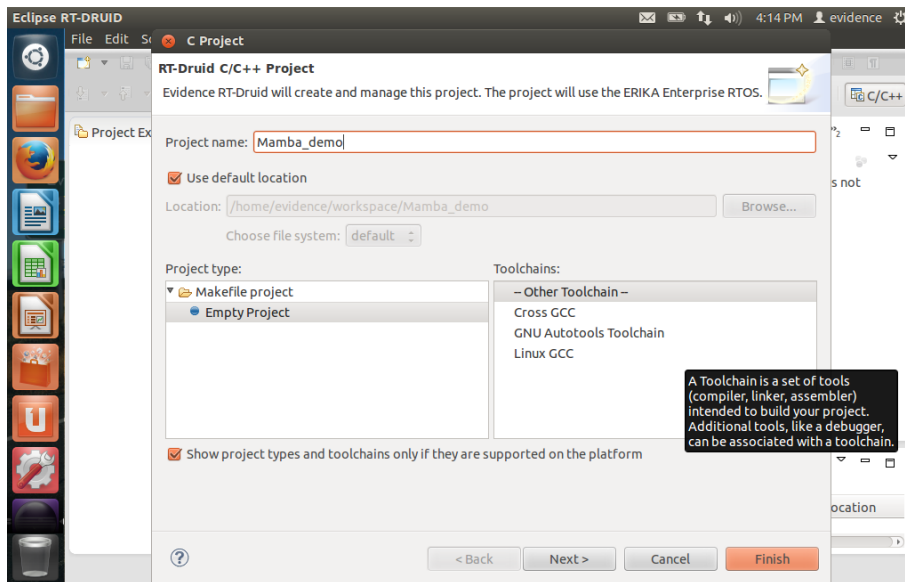

Figure 3.5: Provide a name for the Eclipse project containing the demo.
4. Provide a name for the project. In our case, “Mamba_demo”, as in Figure 3.5, and press Next.